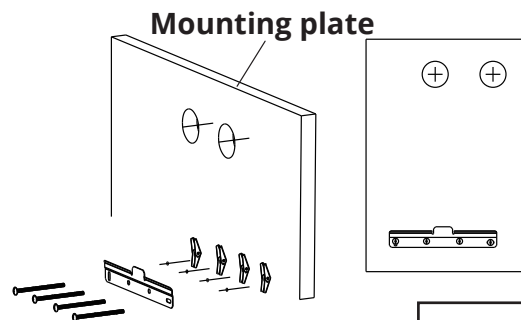

Fig. 6.2
1. Make 4 holes in the wall with the drill. Affix the upper bracket securely to the wall with the expanded screws, ensure that it is level, and ensure that it can support the weight of the water heater. (See Fig. 6.2)